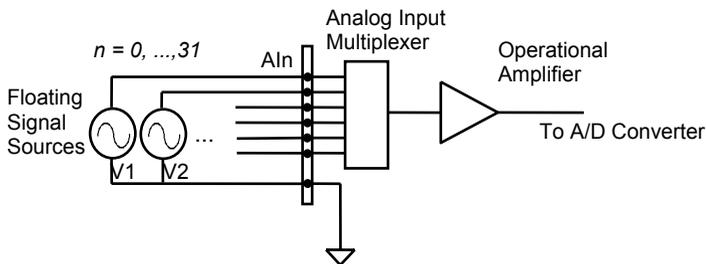

Figure 7. Signal sources and single-ended connection
Single-ended (SE) mode means the voltage of the signal to be measured is relative to an isolated ground (IGND), therefore is suitable in conditions where there is a floating signal source. A floating source means the signal source have no connection to real ground or to the PC ground. Figure 7 illustrates a single-ended Analog Input signal connection. Note that when more than two floating sources are connected, the sources must have a common ground.